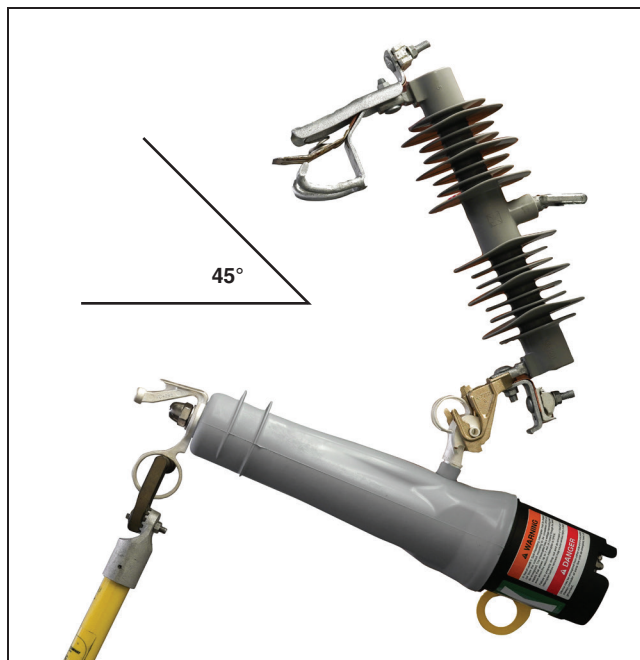

Figure 10. A VacuFuse II interrupter within approximately 45 degrees of the fully Closed position.
- STEP 4.** Swing the VacuFuse II interrupter to within approximately 45 degrees of the fully **Closed** position, as shown in Figure 10.